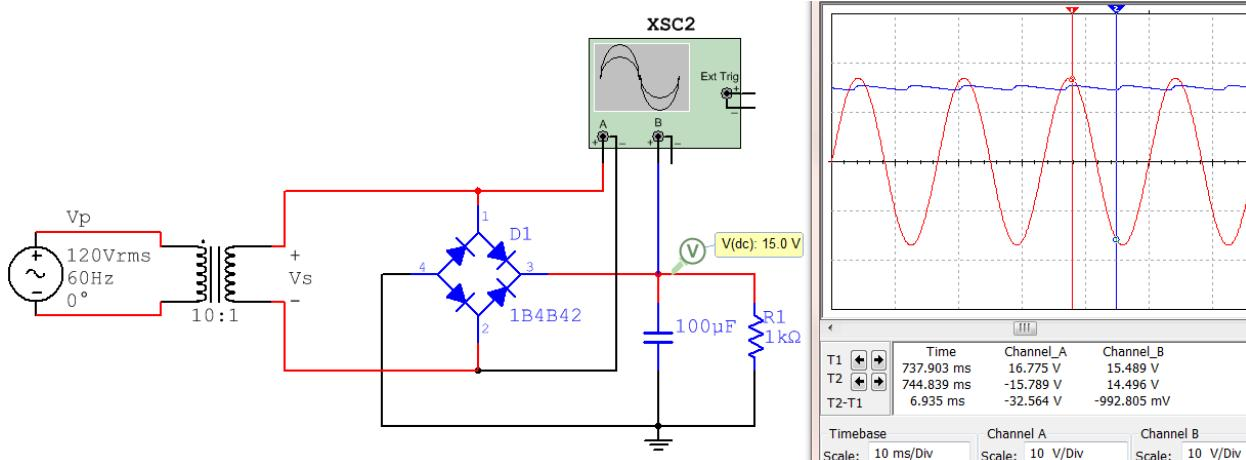

Figure 6.17: Full-Wave Peak Bridge Rectifier.
- Full-Wave Peak Bridge Rectifier (See Figure 6.17)
- **Vs** = peak input voltage =  $120\sqrt{2}/10 = 16.97 \text{ V}$  (16.775 V in Figure 6.17).
- **Vo,pk** = peak output voltage =  $Vs - 2 \cdot 0.7V = 15.57 \text{ V}$  (15.49 V in Multisim - Figure 6.17).
- **Vr** = ripple voltage ( $Vo,pk - \text{minimum } V_{out}$ ) =  $\frac{V_{o,pk}}{2fRC} = \frac{15.57}{2 \cdot 60 \cdot 1k \cdot 100\mu} = 1.3 \text{ V}$  ( $\sim 1\text{V}$  in Figure 6.17).
- **Vo,dc** = the approximate DC voltage of the output (centerline of the ripple). In Figure 6.17  $vo,dc$  is equal to  $15.57 - 0.5 \cdot Vr = 14.92 \text{ V}$ . The DC voltage probe in Figure 6.17 measures the DC voltage as 15 V.